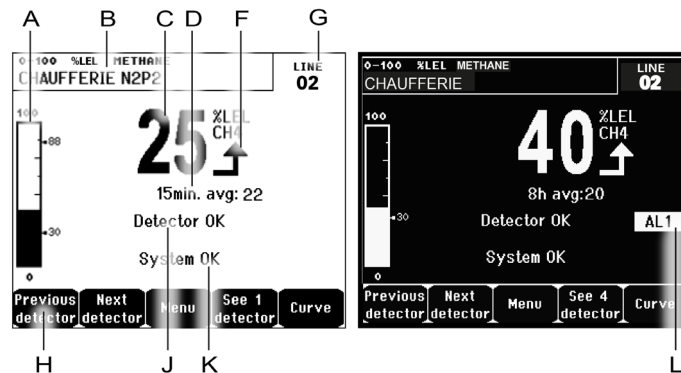
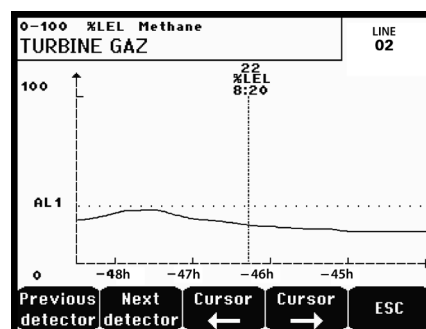

Figure 35: Example of the measurement display in normal mode and in grayscale mode
Figure 36: Example of a curve display screen
H.	<p>Function keys. Previous detector: Display of measurements of previous detector; scanning of all the detectors on all the lines.</p> <ul style="list-style-type: none"> <li>• Next detector: Display of measurements of next detector; scanning of all the detectors on all the lines.</li> <li>• Menu: Display of main menu See paragraph "Main menu" on page 44.</li> <li>• See 4 Detectors: Display of a group of 4 detectors (detector tag, barograph with indication of alarms, value of current measurement with unit and gas detected). Use the Page down or Page up keys to display all of the next 4 detectors; passage to the next zone is automatic.</li> <li>• See 8 Detectors: Display of a group of 8 detectors (detector tag, value of current measurement with unit and gas detected). Other buttons similar to the selection. See 4 detectors.</li> <li>• See 1 detector: Display in normal mode (Figure 35).</li> <li>• Curve: Display of the measurement curves of the last 10 days (Figure 36). The → and ← keys allow cursor displacement through the time scale. The vertical dotted line displays the concentration and time stamp of the point being considered. Escape: return to display of values.</li> </ul>
L.	Zone of indication of activated alarms with blinking threshold display. The screen changes to inverse video (Figure 35).